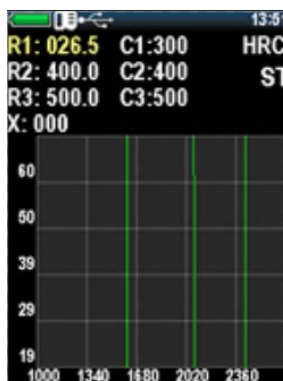

Figure 2.30 - Setting real hardness values
2. To start the calibration, enter the real hardness values of the samples by pressing the key <  >. Using navigation keys <  > and <  > to set up the real hardness values, push <  > key to enter the next value (Figure 2.30).